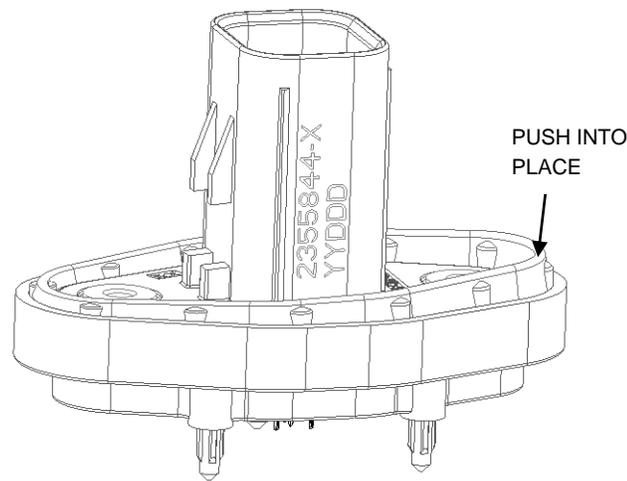

Figure 12
- ii. If the flange seal has become dislodged, simply push on the seal with a clean finger until the seal bottoms in the seal groove as shown in Figure 12.